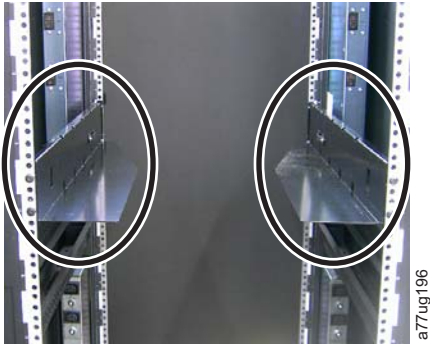

Figure 10-28. Front view of a rack, showing the rails installed
2. With assistance, slide the replacement library enclosure onto the metal rails that are already in position in the rack (see Figure 10-28 on page 10-26).